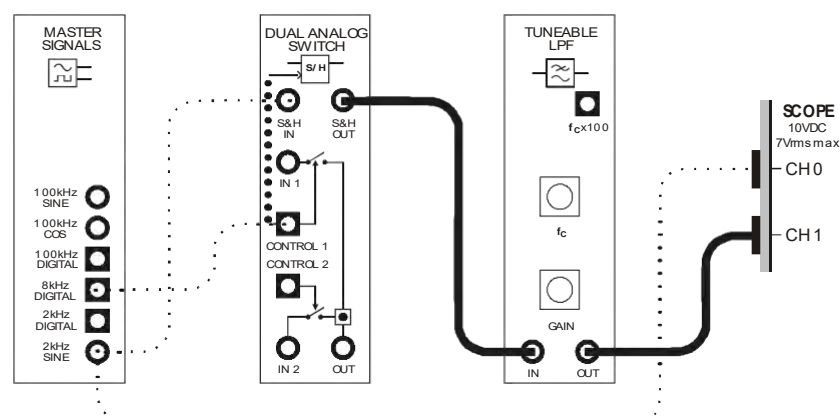
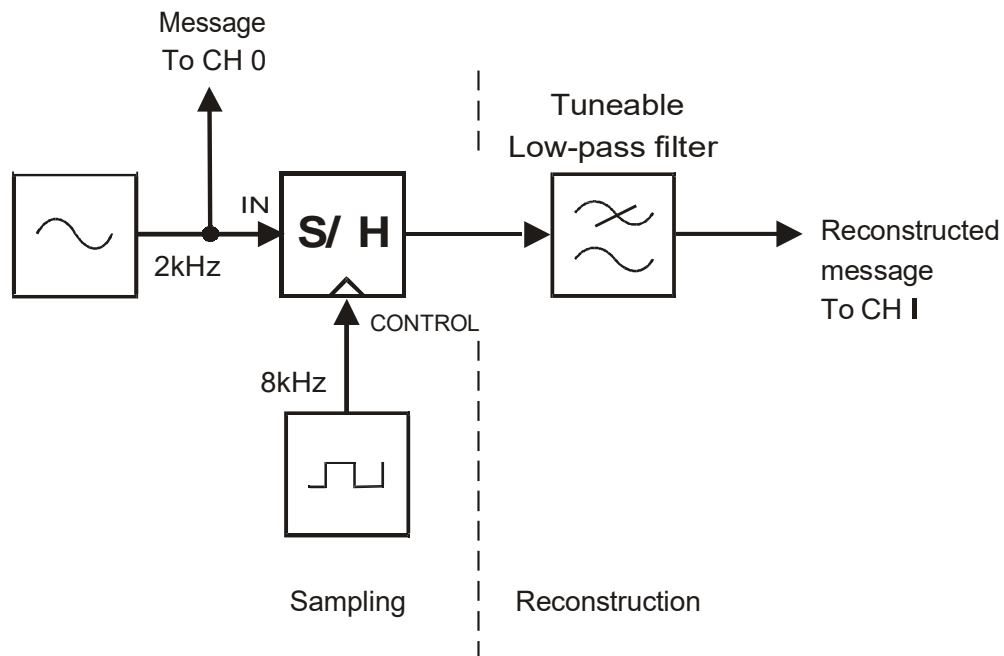

Figure 9
Figure I0
41. Modify the set-up as shown in Figure 9 below.
The set-up in Figure 9 can be represented by the block diagram in Figure I0 below. The Tuneable Low-pass Filter module is used to recover the message. The filter is said to be "tuneable" because the point at which frequencies are rejected (called the cut-off frequency) is adjustable.